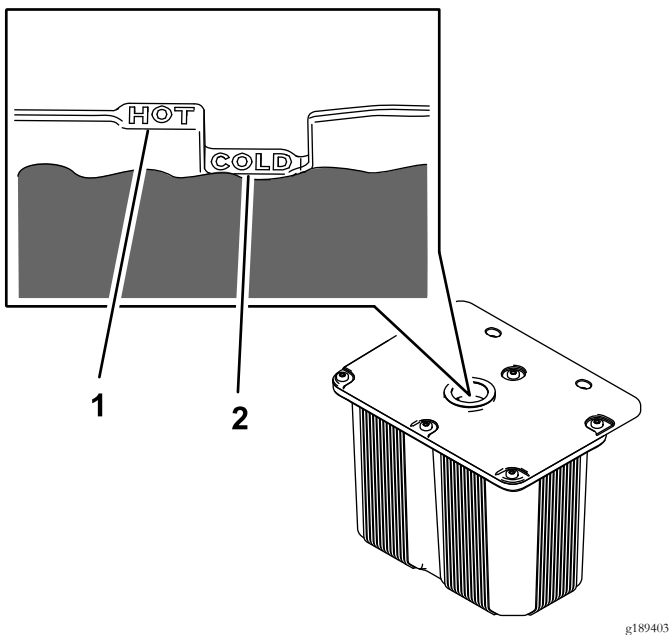

**Figure 49**
3. Remove the filler cap from the reservoir tank (Figure 49).